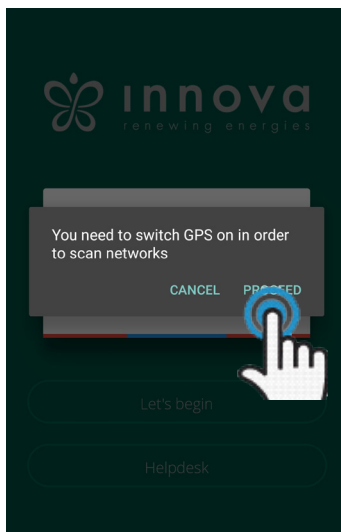

Figure 9-5
**Note:** If the App asks you to be connected to the position, to accept for facilitating the search of the fancoil. (Figure 9-5)